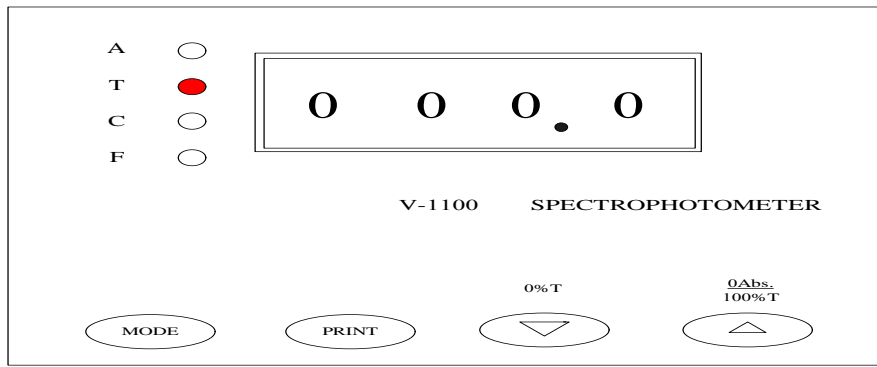

Fig.1-7
- a. To set zero. It is effective only in **T** mode. Insert the Black Block into the cuvette holder, close the sample compartment cover then pull it into the light path. Press the key, and it will show 000.0. (Fig.1-7)